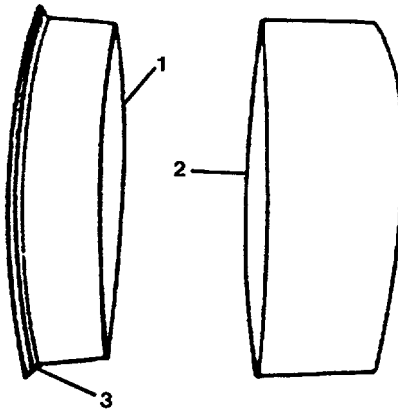

FIGURE 4-62. *Installation Tool and Repair Sleeve.*
- h. Note the position of the repair sleeve required to cover the prior seal wear pattern. Ensure the disposable tool (2, FIG. 4-62) supplied with each repair sleeve will position the sleeve correctly. If a longer installation tool is required, see step (n).
- i. Place the repair sleeve (1) over the worn or damaged area. If more clearance is required, the repair sleeve flange can be removed by sawing through the flange to the pre-cut groove (3).